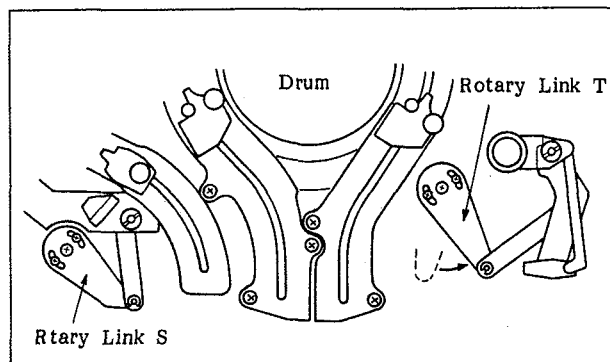

Fig. 6-65. Replacement of Link Wheels S/T
1. Rotate the threading motor manually so that the rotary links S/T are in the positions shown in Figure 6-65.